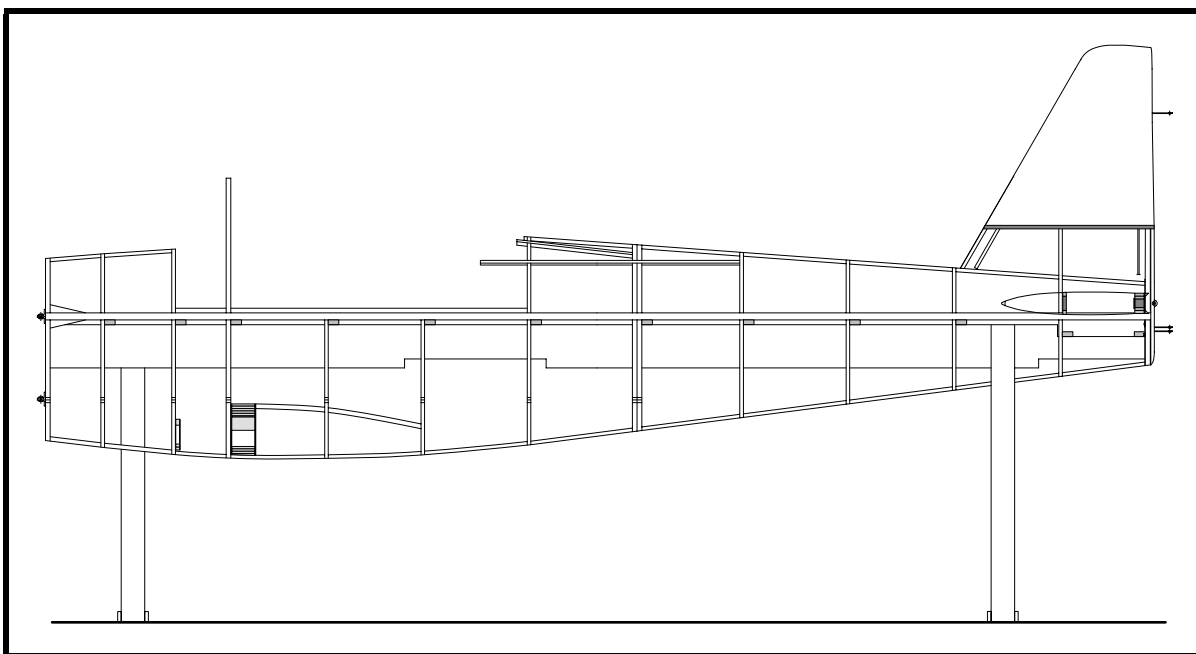

Figure 24
- ❑ Fit and glue the two 35x150 corner blocks for the left side longeron at frame No. 1. See Figure 24.